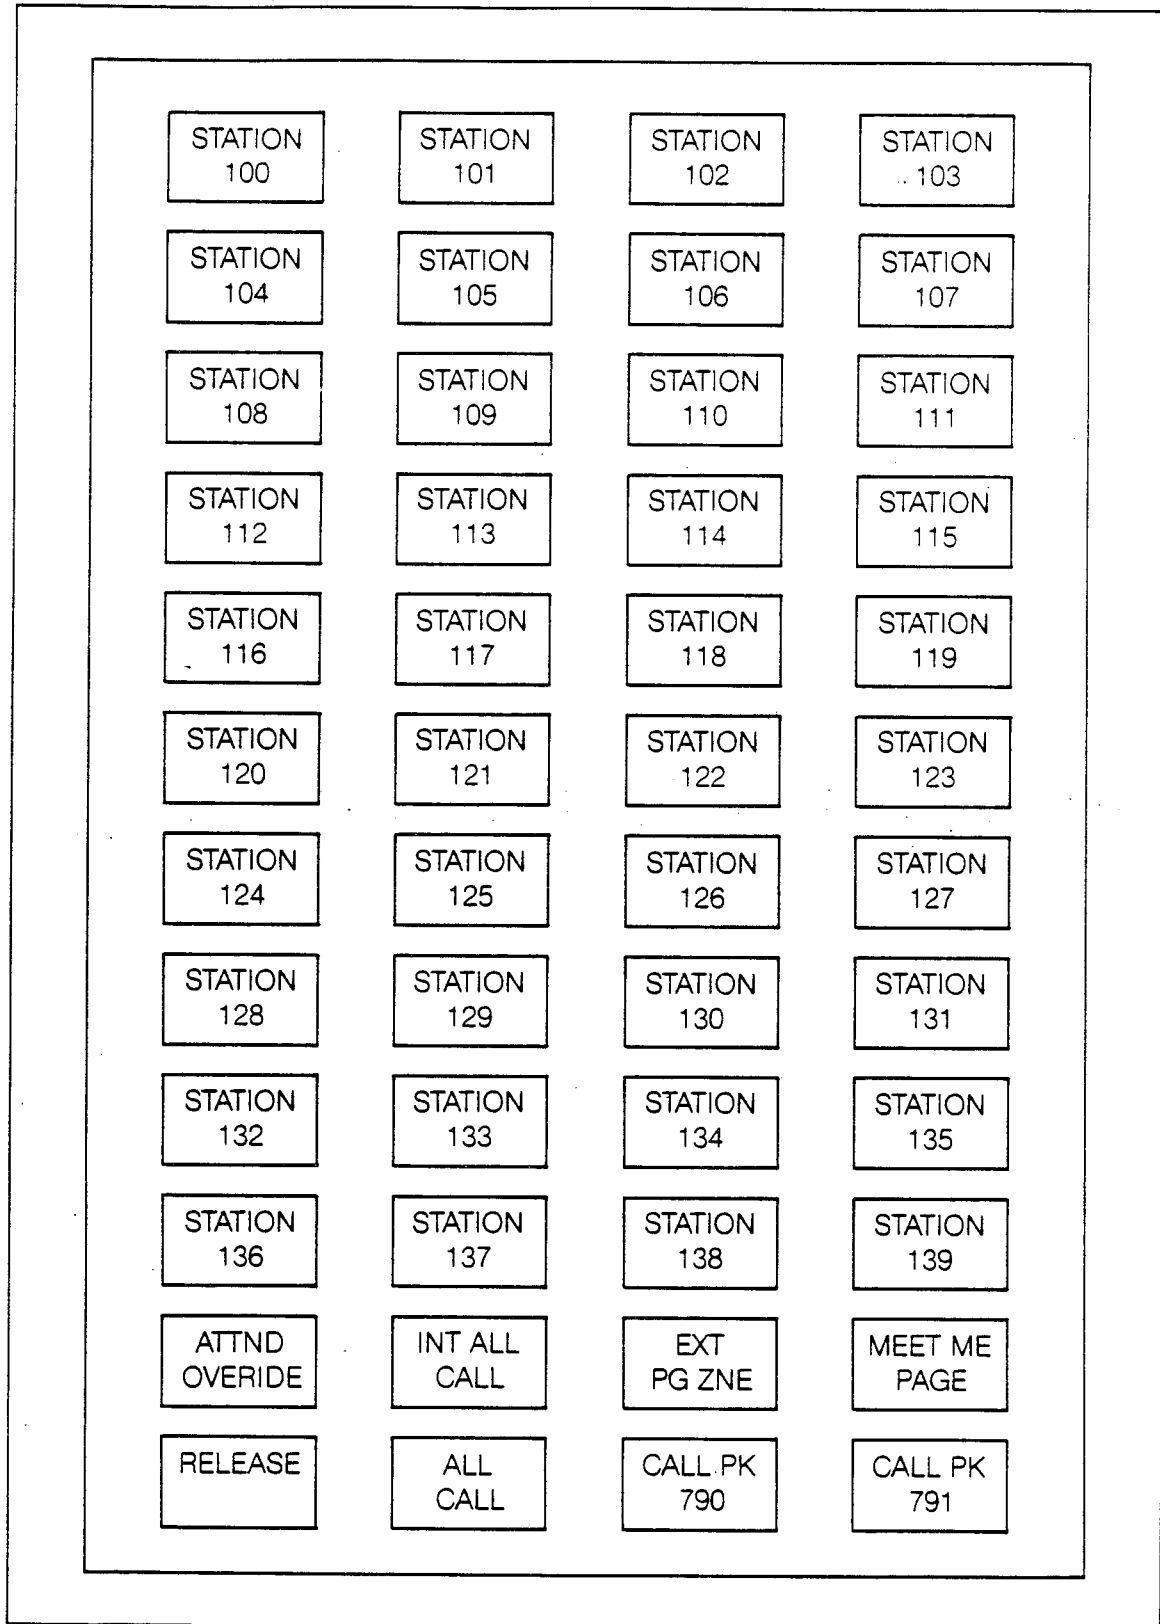

Figure 6-2 DSS/DLS Map 1 Button Assignments
- 1 = DSS with MAP 1 (Figure 6-2)